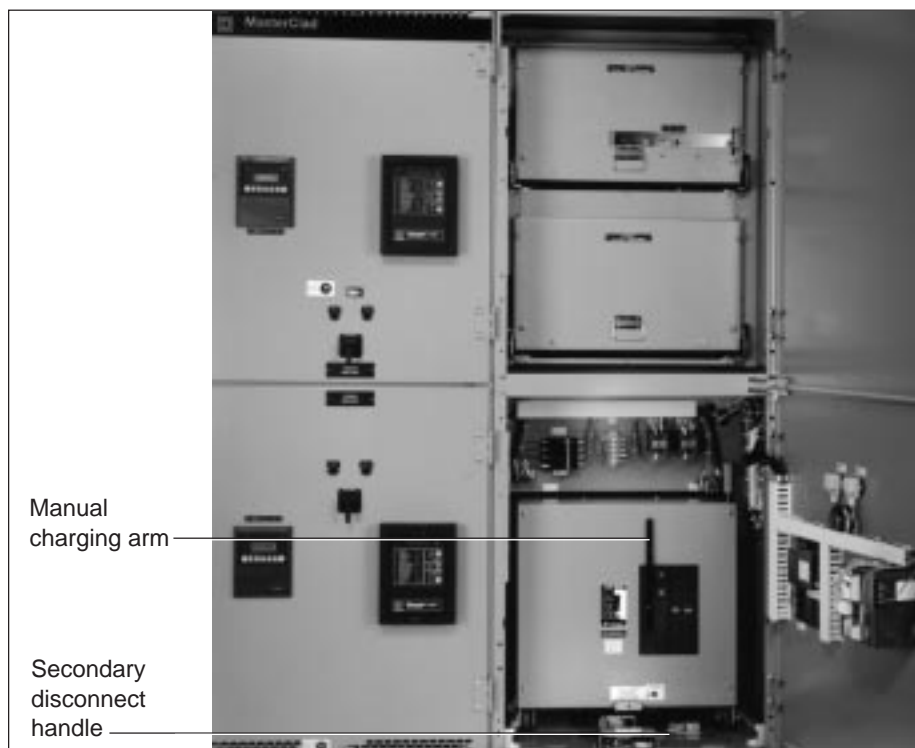

Figure 14: Type VR circuit breaker in test position
1. Roll the circuit breaker into the test position of the cell (figure 14). Do not rack the circuit breaker into the cell.
2. Locate the secondary disconnect handle in the floor of the cell (figure 14). Rotate it 90° and pull it straight out until the control plug inserts into the back of the circuit breaker.
Pull the manual charging arm (figure 14) all the way down and back up to the starting position. Repeat this process until the closing springs are fully charged. They are fully charged when the charging arm resists any further motion and CHARGED is visible in the indicator window. If the circuit breaker is connected to an energized control circuit, the spring charging motor will automatically charge the closing springs and manual charging is not necessary.